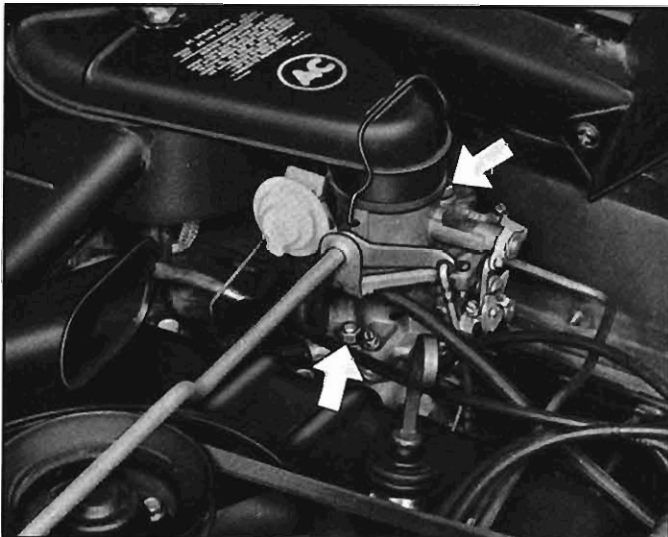

Fig. 12—Removing Carburetor
6. Remove two nuts and washers attaching carburetor to intake manifold studs (fig. 12).